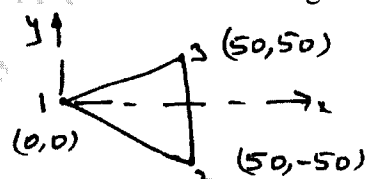

Fig.Q3(c)
- c. Write the Jacobian matrix for the triangular element shown in Fig.Q3(c). (08 Marks)